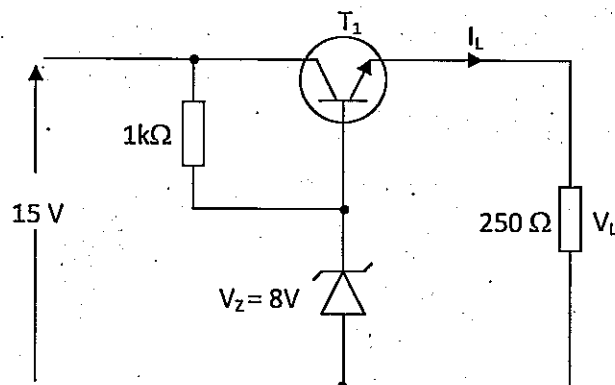

Figure Q5
- The circuit shown in Figure Q5 is an emitter follower regulation circuit. Calculate the values of V_L , I_L , V_{CE} and the power dissipated by T_1 . Assume that the transistor is *Si*(Silicon).